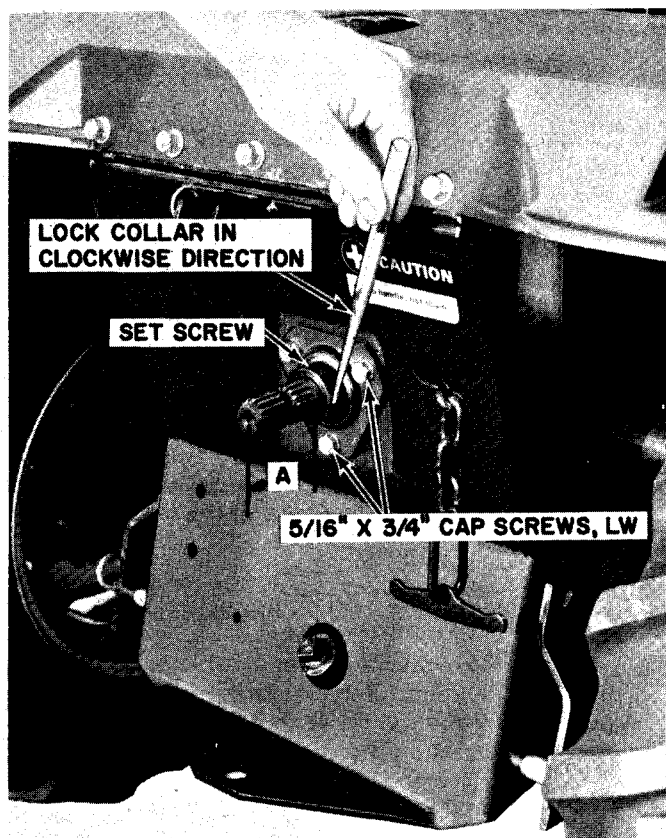

FIGURE 3
d. Remove access plate from rear of tractor frame and install the pre-assembled PTO shaft as shown in Figure 3. Guide the splined collar on the PTO shaft over the splined stub shaft at the rear of the hydrostatic transmission. **NOTE:** The stub shaft at rear of transmission is easily visible after removing the access plate.
e. Secure the bearing flangettes to the tractor frame with three (3) $\frac{3}{16}$ " x $\frac{3}{4}$ " cap screws and lock-washers, Figure 3.
f. Be certain the shoulder on the locking collar is seated over the eccentric shoulder on the bearing. Turn locking collar clockwise until just finger tight. Slide the PTO shaft front or rear until distance A, Figure 3, is 2". **NOTE:** Measure distance A from end of PTO shaft to outside edge of locking collar.
g. Place a drift punch in the indentation provided in the locking collar, Figure 3, and tap the collar in a clockwise direction until bearing is securely locked. Secure bearing in the locked position by tightening the setscrew, Figure 3.